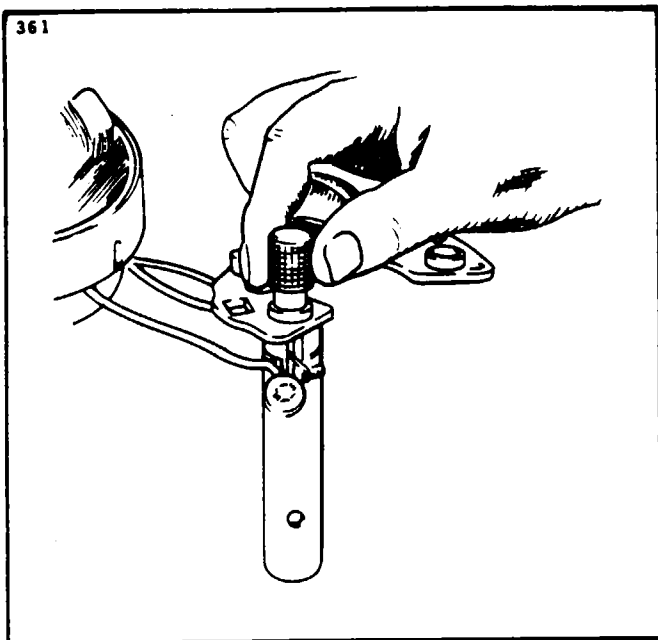

Figure 11-5. Removal of Rectifier
- d. Remove the nuts, lock washers, flat washers and insulators from the output and auxiliary terminal studs. Note carefully the correct assembly of the insulator washers and bushings. Using the special tools shown in Figure 11-5, support the end head and press out the three negative rectifiers. The end head can now be separated from the stator assembly.